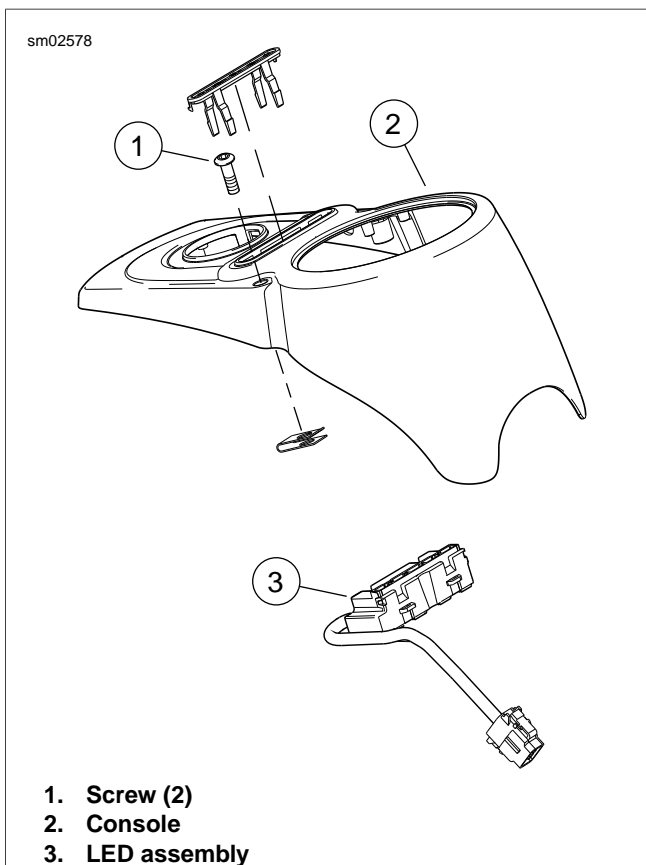
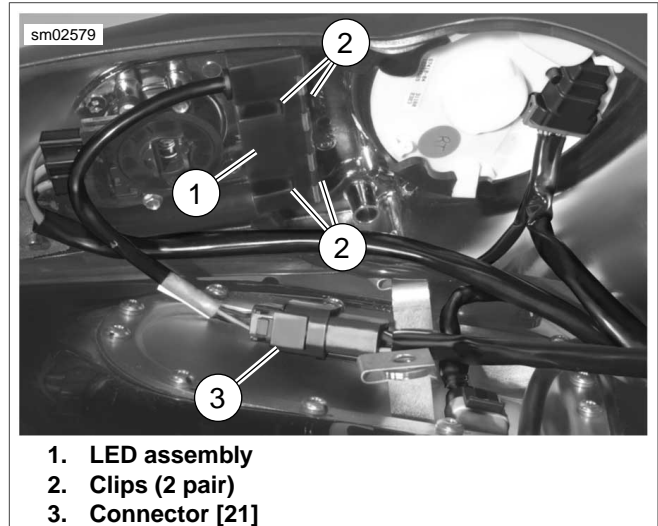

Figure 7-60. Indicator Lamp Assembly: FXDC, FXDF
Figure 7-61. FXDC, FXDF Connector [21]
1. See Figure 7-60. Remove screws (1) and raise console (2) from fuel tank. Place shop rags on tank and flip console over to expose underside.
2. See Figure 7-61. Squeeze clips together (2) and gently pry LED assembly (1) out of console from the side with a screwdriver.
3. Disconnect 8-place connector (3) [21] from LED assembly.
1. See Figure 7-61. Install LED assembly (1) into console. Make sure clips (2) engage to secure assembly in place.
2. Connect connector (3) [21] to main wiring harness.
3. See Figure 7-60. Place console (2) in position. Tighten screws (1) to 18-24 **in-lbs** (2.0-2.7 Nm).